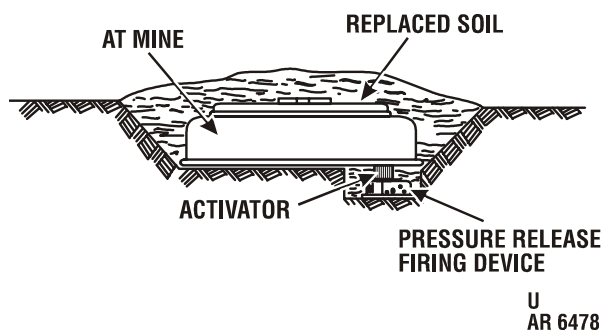

Figure 2-45. Antihandling devices.
(21) Camouflage installation in accordance with instructions in FM 20-32, being careful not to move extension rod or place any material in a position that will prevent movement of extension rod or pressure ring.
e. *Boobytrapping* (figs. 2-45 and 2-46).
As mine employs activator M1, which is a high-explosive booster, and is equipped with two secondary fuze wells, the wells may be used for boobytrapping. Any firing device with standard base coupling or firing devices with 0.5625 outside thread can be used with activator M1 for this purpose (fig. 2-45).